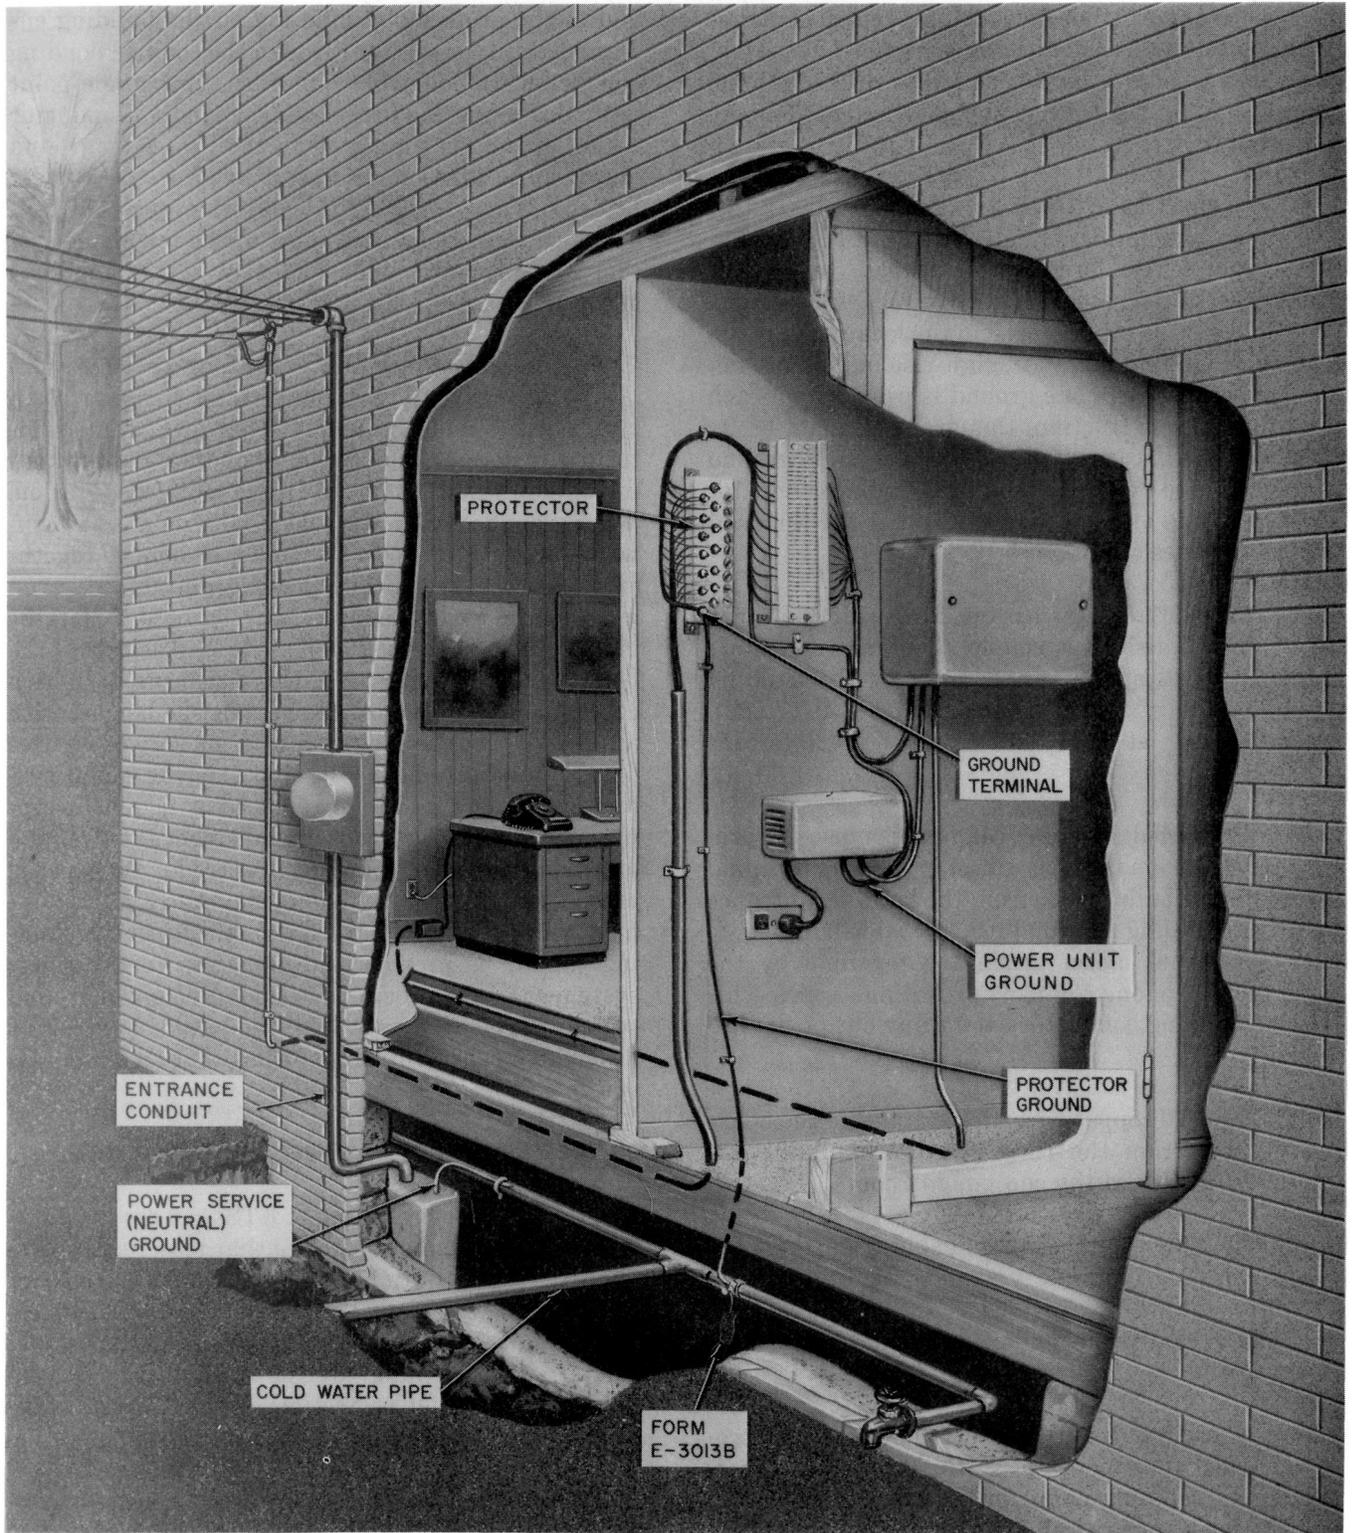

Fig. 1—Properly Grounded 1A2 Key Telephone System
2.02 **The KTS installations usually require station protection in lightning areas regardless of power exposure of the telephone plant.** This condition is discussed in more detail in Part 3 of this practice. Briefly, however, the key station must be protected from the voltages that can be developed between any two ground points. These ground points include the KTS power supply ground, the commercial power ground, the station protection ground, and the CO or PBX ground. **It is strongly recommended that protection of KTS lines always be considered in areas where thunderstorm activity can occur.** The lack of such protection can result in damage to and failure of circuit pack and power supply components. A typical installation protected and grounded according to the requirements presented here is illustrated in Fig. 1.